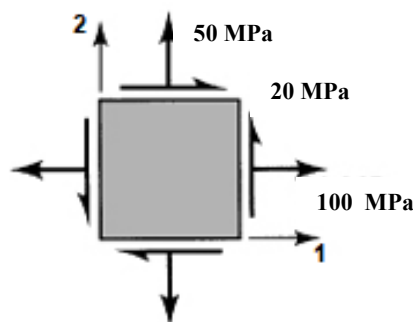

Figure 1
- (c). The structure will be subjected to stresses as shown in **Figure 1**.